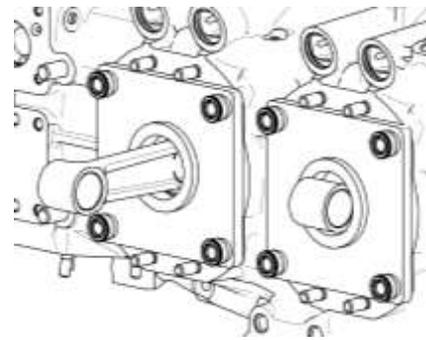

Figure 87
- (11) Install the Torque Hold-Down Plate (ST-222, Figure 87) on the cylinder pads over the thru-studs.
- (12) Attach the plates with washers and nuts on the thru-studs. Tighten the nuts only finger tight at this time.
- (13) Make sure that the plates remain parallel with the cylinder decks of the crankcase.